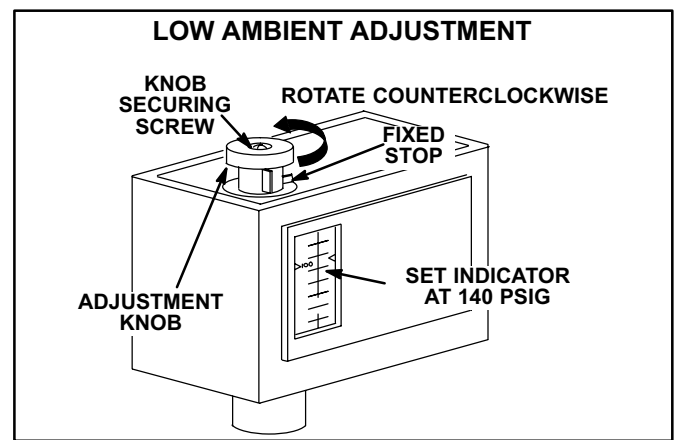

FIGURE 33
- 1 - Loosen knob securing screw to allow knob stop to pass over fixed stop on control (see figure 33).